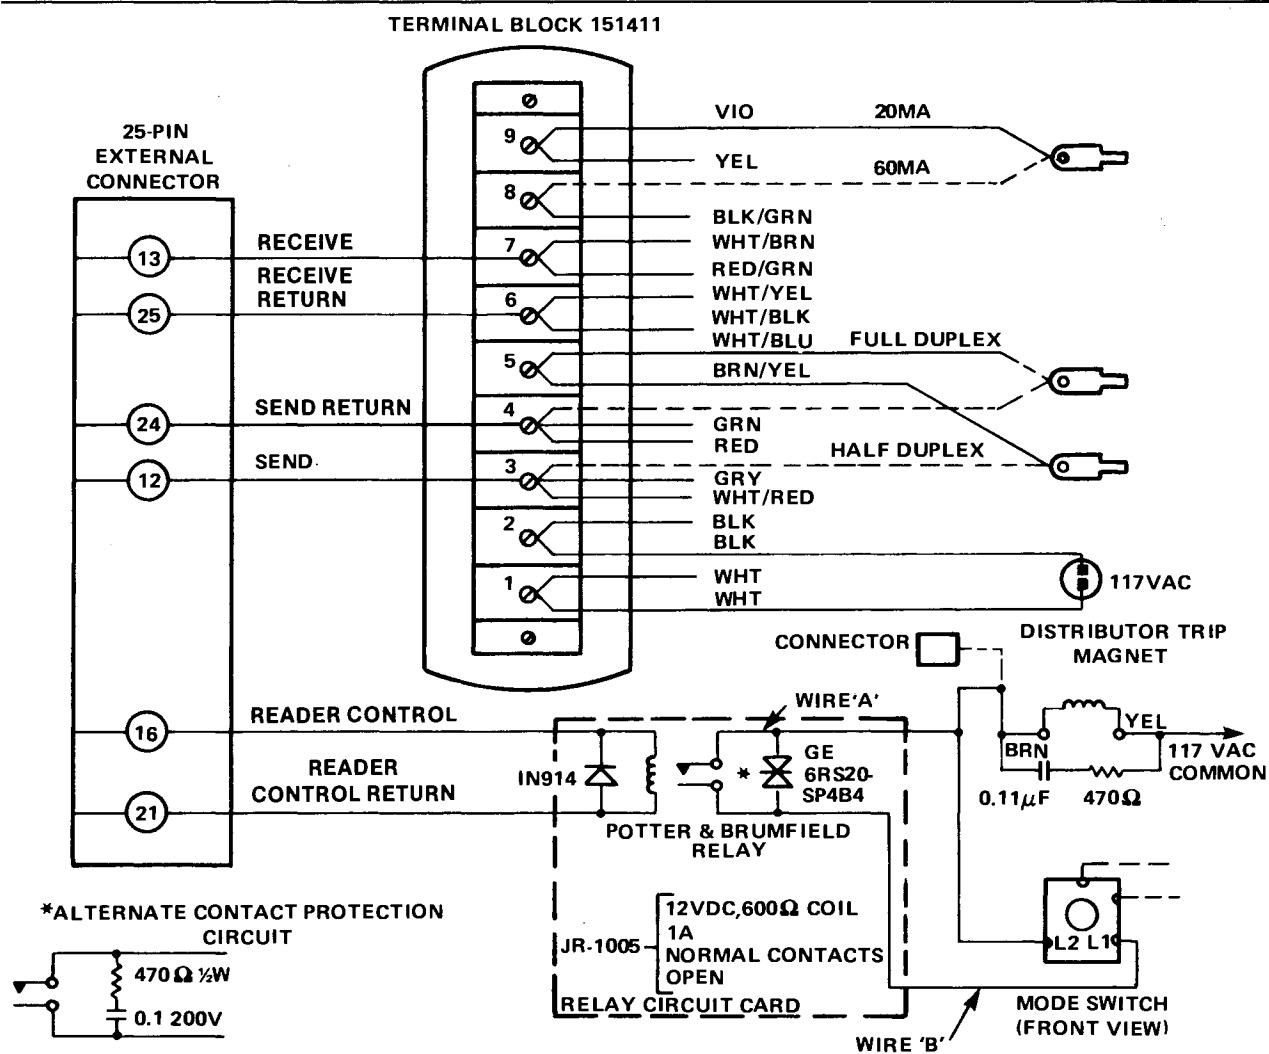
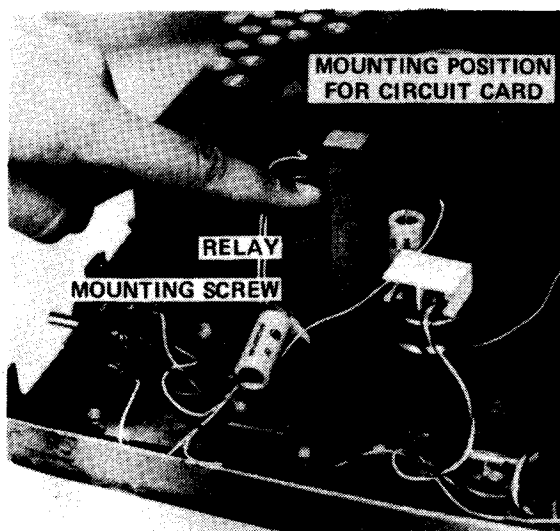
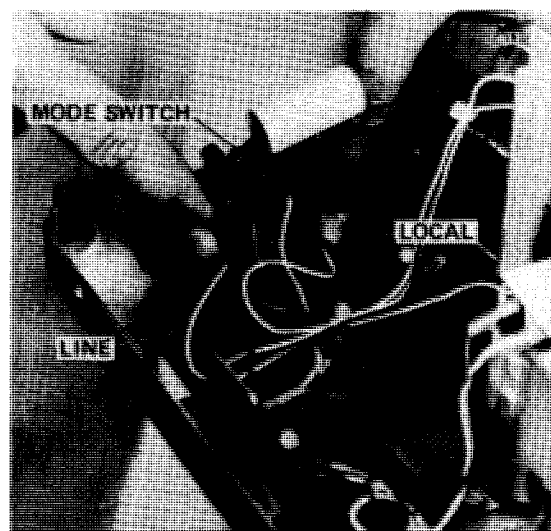

Figure A-4. Teletypewriter Modifications
Figure A-5. Relay Circuit
Figure A-6. Mode Switch
A circuit diagram of the relay circuit card is included in figure A-4; this diagram also includes the part numbers of the relay, diode, and thyrector. (Note that a 470-ohm resistor and a 0.1 μ F capacitor may be substituted for the thyrector.) After the relay circuit card has been assembled, mount it in position as shown in figure A-5. Secure the card to the base plate using two self-tapping screws. Connect the relay circuit to the distributor trip magnet and mode switch as follows:
- a. Refer to figure A-4 and connect a wire (Wire 'A') from relay circuit card to terminal L2 on mode switch. (See figure A-6.)
- c. Refer to figure A-4 and connect a wire (Wire 'B') from relay circuit board to terminal L1 on mode switch.
Connect a two-wire receive loop, a two-wire send loop, and a two-wire tape reader control loop to the external device as shown in figure A-4. The external connector pin numbers shown in figure A-4 are for interface with an RS232C type, 25-pin connector.